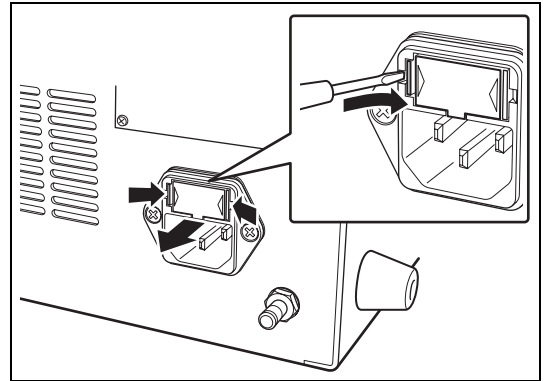

Figure 5.5
- 2 Insert a screwdriver on the left/right side of the fuse box and use it to pull out the fuse box. (Refer to Figure 5.5.)